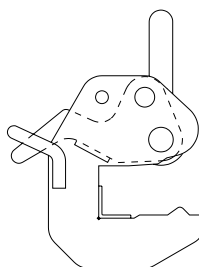

Fig. 38.3
1. Open the safety lever as far as possible (Fig. 38.3).